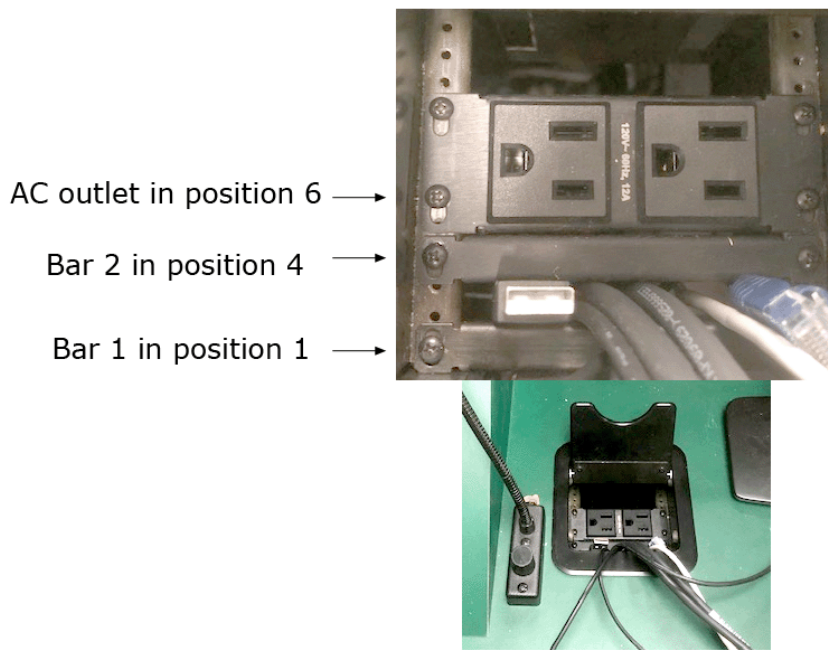

Figure 1 Cable Nook Junior Configuration
- Cable nook for cable management shall be built into lectern top as shown in Figure 1 to provide an AC power outlet, HDMI, USB C and Ethernet cable (see parts list).